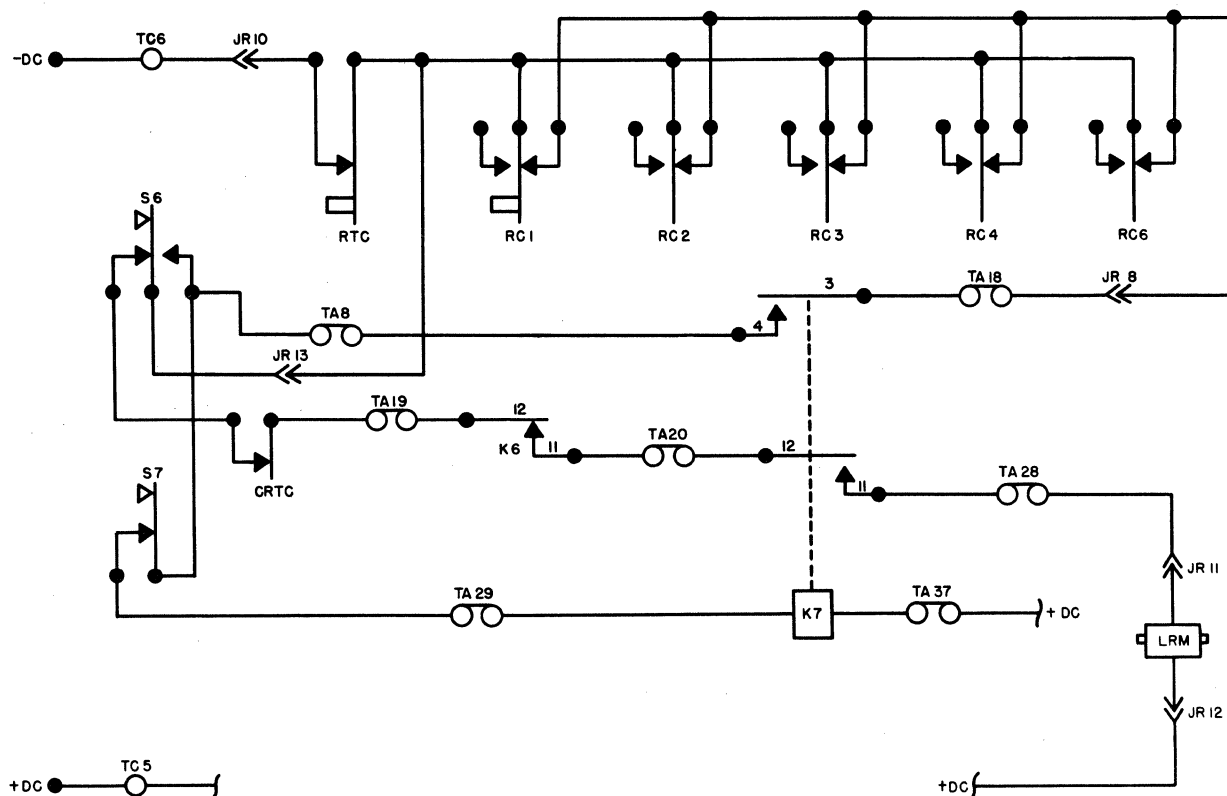

Figure 3-6 Start and Stop Circuit
Start and Stop Circuits — (Figure 3-6) The start read switch (S6), when depressed and released, will energize the reader magnet (LRM) and start a reader cycle of operation. In order to energize the reader magnet, a circuit is first completed to the reader control relay (K7) as follows:
**Stop Code Circuit** — When a stop code 1-2-3-4-6 is read by the reader, the holding circuit for the K7 relay will be broken (Figure 3-6), thus de-energizing the reader magnet and stopping the reader operation. A normally closed contact on RC1, RC2, RC3, RC4 and RC6 completes a holding